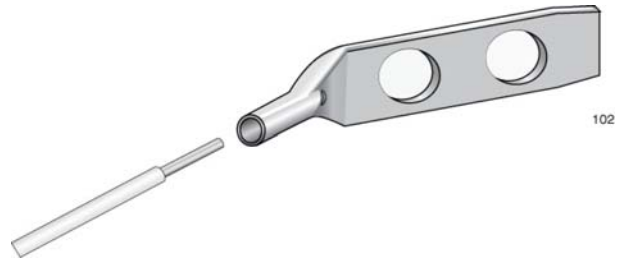

Figure 47. Attaching the Grounding Wire to the Grounding Lug
3. Insert one end of the grounding wire into the grounding lug, as shown in Figure 47, and use a crimping tool to secure the wire to the grounding lug.